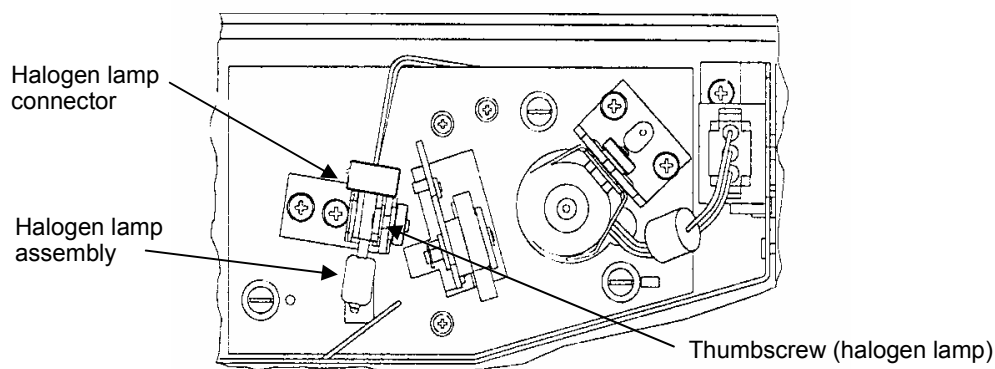

Figure 34 Removing the halogen lamp connector
4. Carefully pull the halogen lamp connector from the rear of the halogen lamp, as shown in Figure 34.